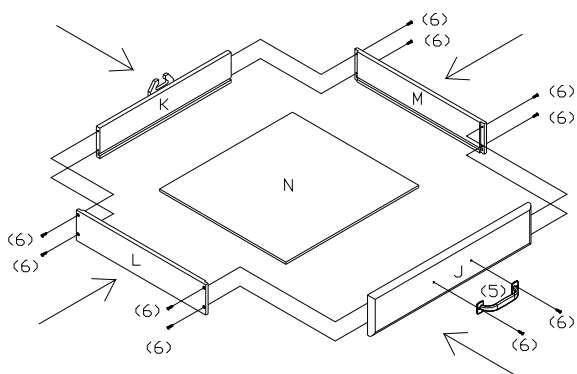

FIGURE 3
6. INSERT WOOD SCREWS (6) THROUGH PREDRILLED HOLES ON OUTSIDE OF DRAWER LEFT SIDE (L) AND TIGHTEN INTO CORRESPONDING HOLES ON ENDS OF DRAWER FRONT AND BACK (J, K). SLIDE DRAWER BOTTOM (N) INTO GROOVES ON INSIDE OF DRAWER FRONT AND BACK (J, K) AND ALIGN WITH THE GROOVE ON DRAWER LEFT SIDE (L). REPEAT SAME PROCEDURE FOR DRAWER RIGHT SIDE (M). INSERT WOOD SCREWS (6) THROUGH METAL HANDLE (5) AND TIGHTEN INTO PREDRILLED HOLES ON DRAWER FRONT (J). **INSERT WOOD SCREW (6) THROUGH DRAWER STOPPER (10) AND TIGHTEN INTO PREDRILLED HOLE ON FRONT PANEL (E). THEN PLACE THE ASSEMBLED DRAWER INTO SPACE OF BAR TABLE. (AS SHOWN IN FIGURES 3 & 4).**